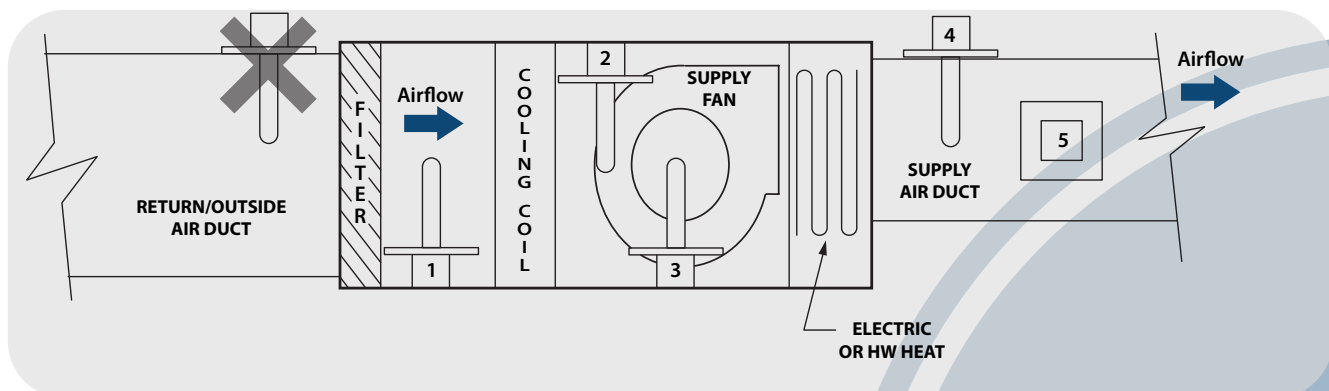

Figure 2
**Step 4.** If the ionizer cannot be installed in the supply duct due to temperature limitations or it's not easily accessible for tube replacement, the ionizers can be mounted inside the AHU or RTU using an "L" shaped bracket available from many hardware suppliers. See Figure 2 for alternate locations. Be sure to select a location within the air handling unit where there is good airflow. One such location is immediately adjacent to the fan inlet.